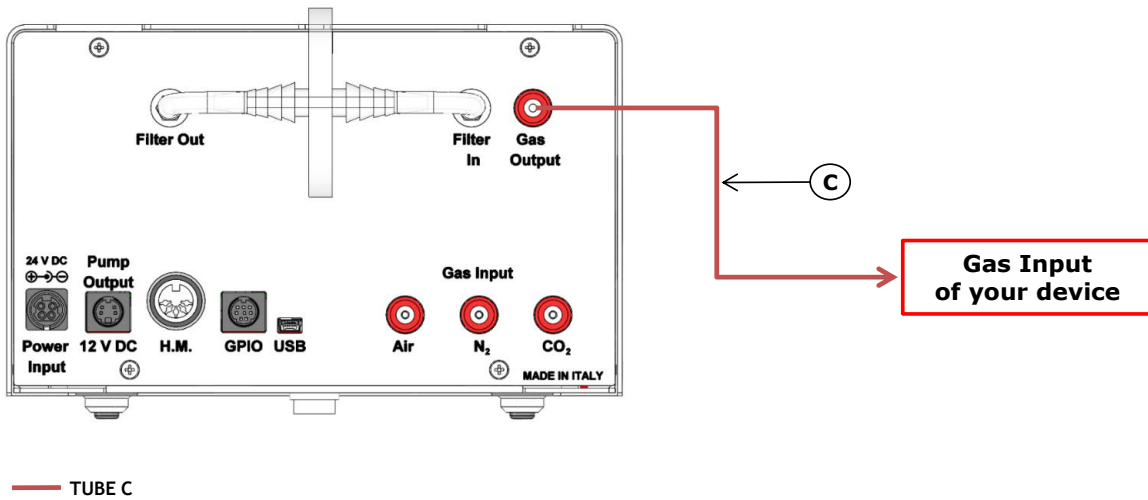

Figure 13. Gas Output connections.
4. Connect the TUBE-C to the gas port labeled “Gas output” on the rear panel of CO₂-O₂-UNIT-BL [0-10; 1-18] and the other side of the TUBE-C to your device, as shown in Figure 13.